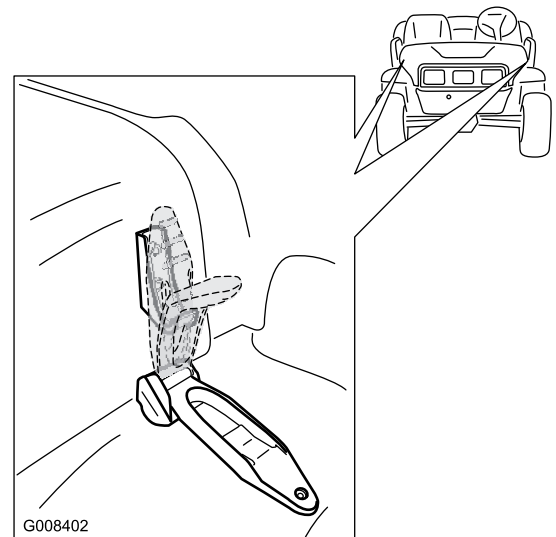

Figure 23
1. Lift up the handle of the rubber latches at each side of the hood (Figure 23).
2. Secure the hood by aligning the rubber latches onto the latch anchors at each side of the hood (Figure 23).